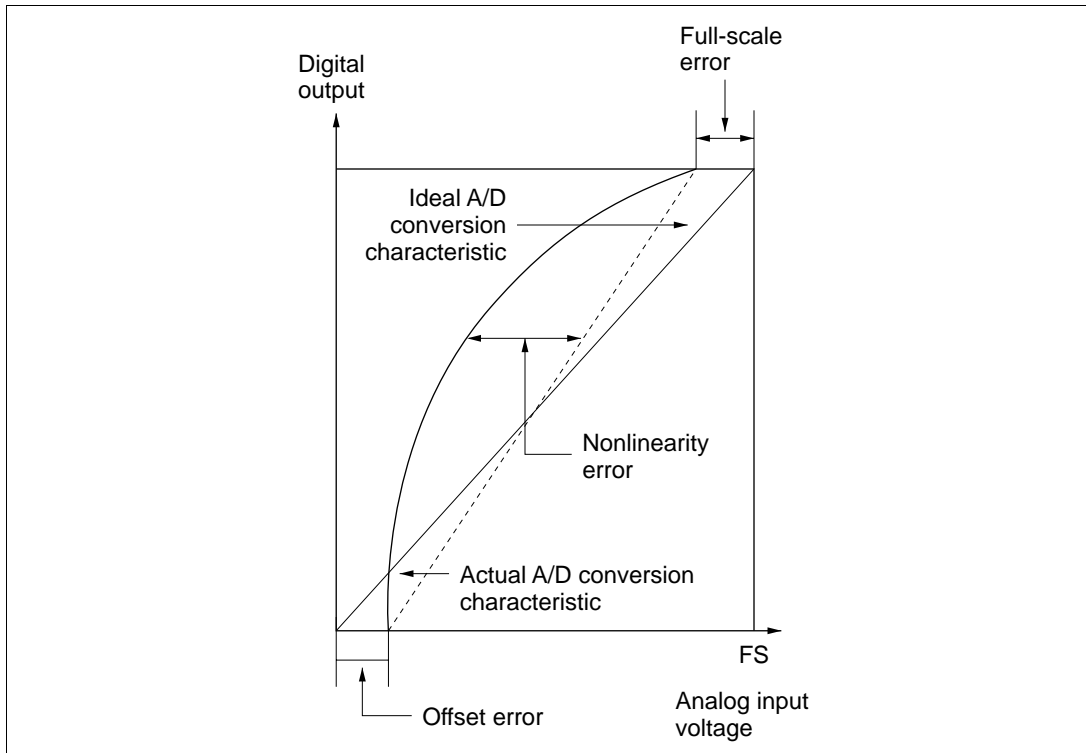

Figure 15.10 A/D Converter Accuracy Definitions (2)
- Offset error: Deviation from ideal A/D conversion characteristic of analog input voltage required to raise digital output from minimum voltage value 0000000000 to 0000000001 (figure 15.10)
- Full-scale error: Deviation from ideal A/D conversion characteristic of analog input voltage required to raise digital output from 1111111110 to 1111111111 (figure 15.10)